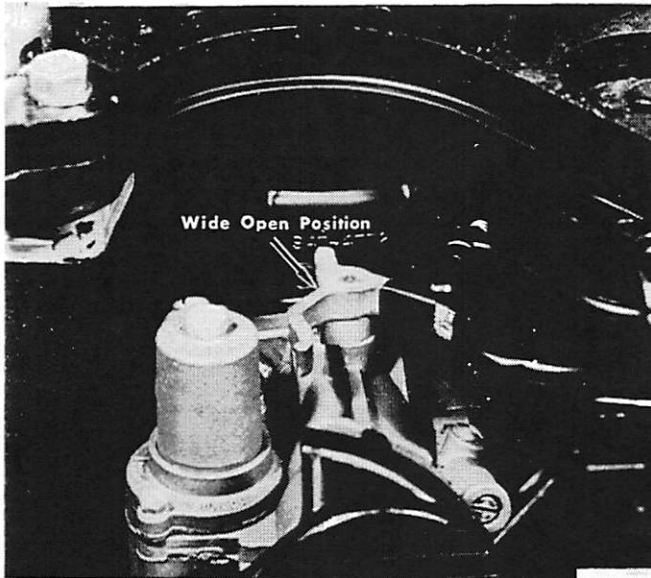

Figure 5. Adjusting Maximum Throttle
5. Rotate throttle to wide-open position. Adjust throttle stop screw to allow full carburetor butterfly opening. To prevent throttle linkage from binding, allow a clearance of .010"-.015" (.25mm - .38mm). Tighten locknut. (Figure 5)
6. Rotate throttle to wide-open position. Adjust throttle stop screw to allow full carburetor butterfly opening. To prevent throttle linkage from binding, allow a clearance of .010" - .015" (.25mm - .35mm). Tighten locknut. (Figure 5)